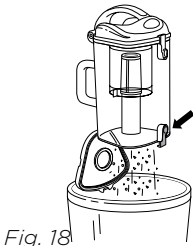

Fig. 18
- 2 Hold the dust cup over a trash receptacle and press the bottom door release button. (Fig. 18) Tap gently to empty contents. Press the door shut again until it clicks.